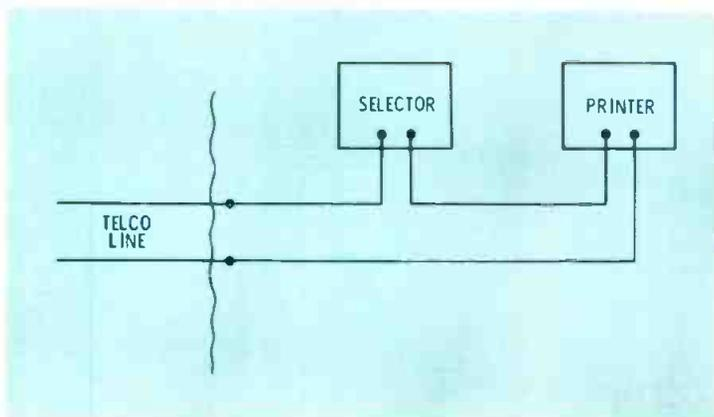

Fig. 2 This is a DC circuit. the selector and printer should be wired in series so as not to load the Telco lines.
(2) The transmitting system shall be capable of transmitting a band of frequencies from 50 to 15,000 hertz (Hz). Preemphasis shall be employed in accordance with the impedance-frequency characteristic of a series inductance-resistance network having a time constant of 75 microseconds. (See Fig. 2 of § 73.333) The deviation of the system response from the standard preemphasis curve shall lie between two limits as shown in Figure 2 of §73.333. The upper of these limits shall be uniform (no deviation) from 50 to 15,000 Hz. The lower limit shall be uniform from 100 to 7,500 Hz, and 3 dB below the upper limit; from 100 to 50 Hz the lower limit shall fall from the 3 dB limit at a uniform rate of 1 dB per octave (4 dB at 50 Hz); from 7,500 to 15,000 Hz the lower limit shall fall from the 3 dB limit at a uniform rate of 2 dB per octave (5 dB at 15,000 Hz).